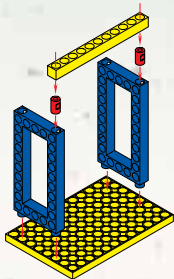

Fig. 1
1. The anchor pin can be used to join rods and frames (Fig. 1).